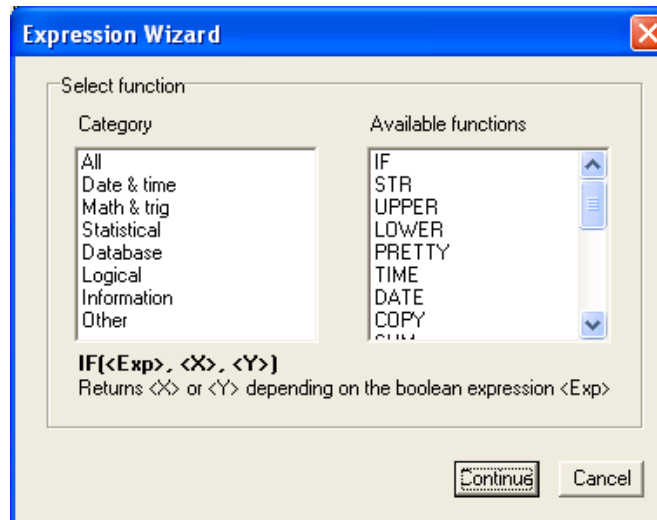

Figure 60 - Select Function Window
9. Click on the **Function** button to go to the **Select function** (Figure 60) window. After selecting the required function, click on the **Continue** button to close the **Select function** window and return to the **Expression Wizard**.